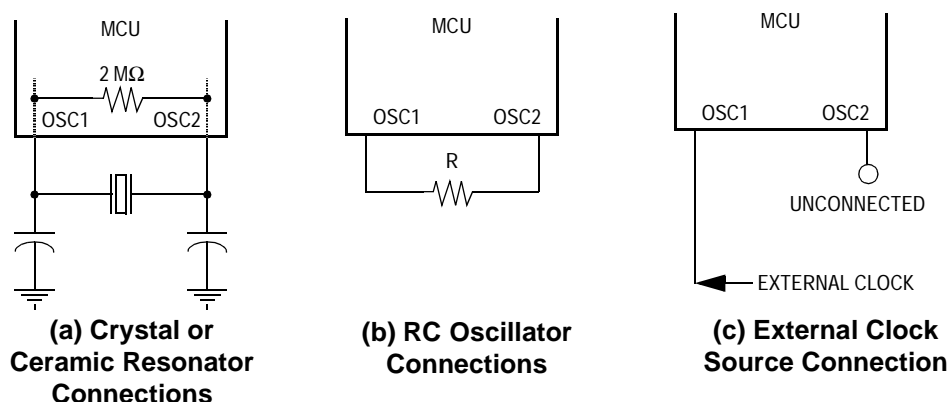

Figure 1-3. EPO Oscillator Connections
- A crystal as shown in Figure 1-3 \(a\)
- A ceramic resonator as shown in Figure 1-3 \(a\)
- An external resistor as shown in Figure 1-3 \(b\)
- An external clock signal as shown in Figure 1-3 \(c\)
The circuit in **Figure 1-3 (a)** shows a typical oscillator circuit for an AT-cut, parallel resonant crystal. The crystal manufacturer’s recommendations should be followed, as the crystal parameters determine the external component values required to provide maximum stability and reliable startup. The load capacitance values used in the oscillator circuit design should include all stray capacitances. The crystal and components should be mounted as close as possible to the pins for startup stabilization and to minimize output distortion. An internal startup resistor of approximately 2 MΩ can be provided between OSC1 and OSC2 for the crystal type oscillator by use of the OSCRES bit in the MOR.
In cost-sensitive applications, a ceramic resonator can be used in place of the crystal. The circuit in **Figure 1-3 (a)** can be used for a ceramic resonator. The resonator manufacturer’s recommendations should be followed, as the resonator parameters determine the external component values required for maximum stability and reliable starting. The load capacitance values used in the oscillator circuit design should include all stray capacitances. The ceramic resonator and components should be mounted as close as possible to the pins for startup stabilization and to minimize output distortion. An internal startup resistor
The lowest cost oscillator is the RC oscillator configuration where a resistor is connected between the two oscillator pins as shown in Figure 1-3 \(b\).
An external clock from another CMOS-compatible device can be connected to the OSC1 input, with the OSC2 input not connected, as shown in Figure 1-3 \(c\). This oscillator can be selected via software. This configuration is possible regardless of whether the crystal/ceramic resonator or RC oscillator configuration is used.